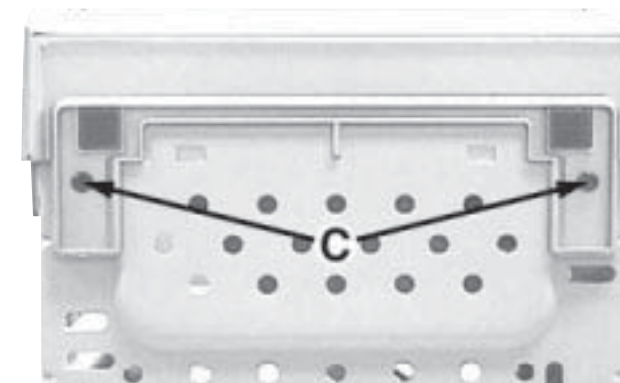

Figure 5
- 1) Remove 2 screws C (see Figure 5) from the bottom of the Cabinet Front .